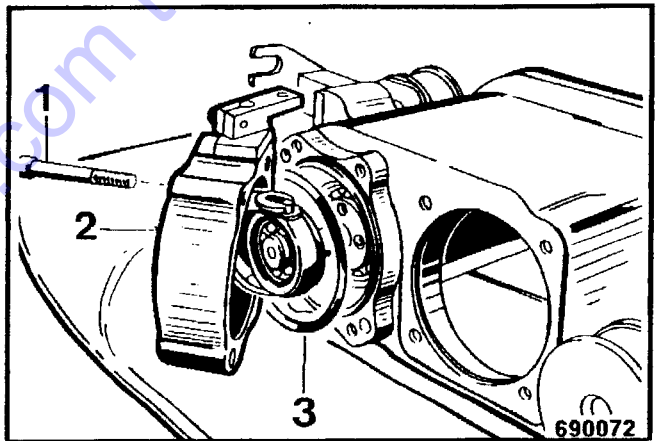

Fig. 14
- Unscrew four mounting screws 1 (Fig. 14).
- Take the control housing cover (2) and the seal ring (3) off.